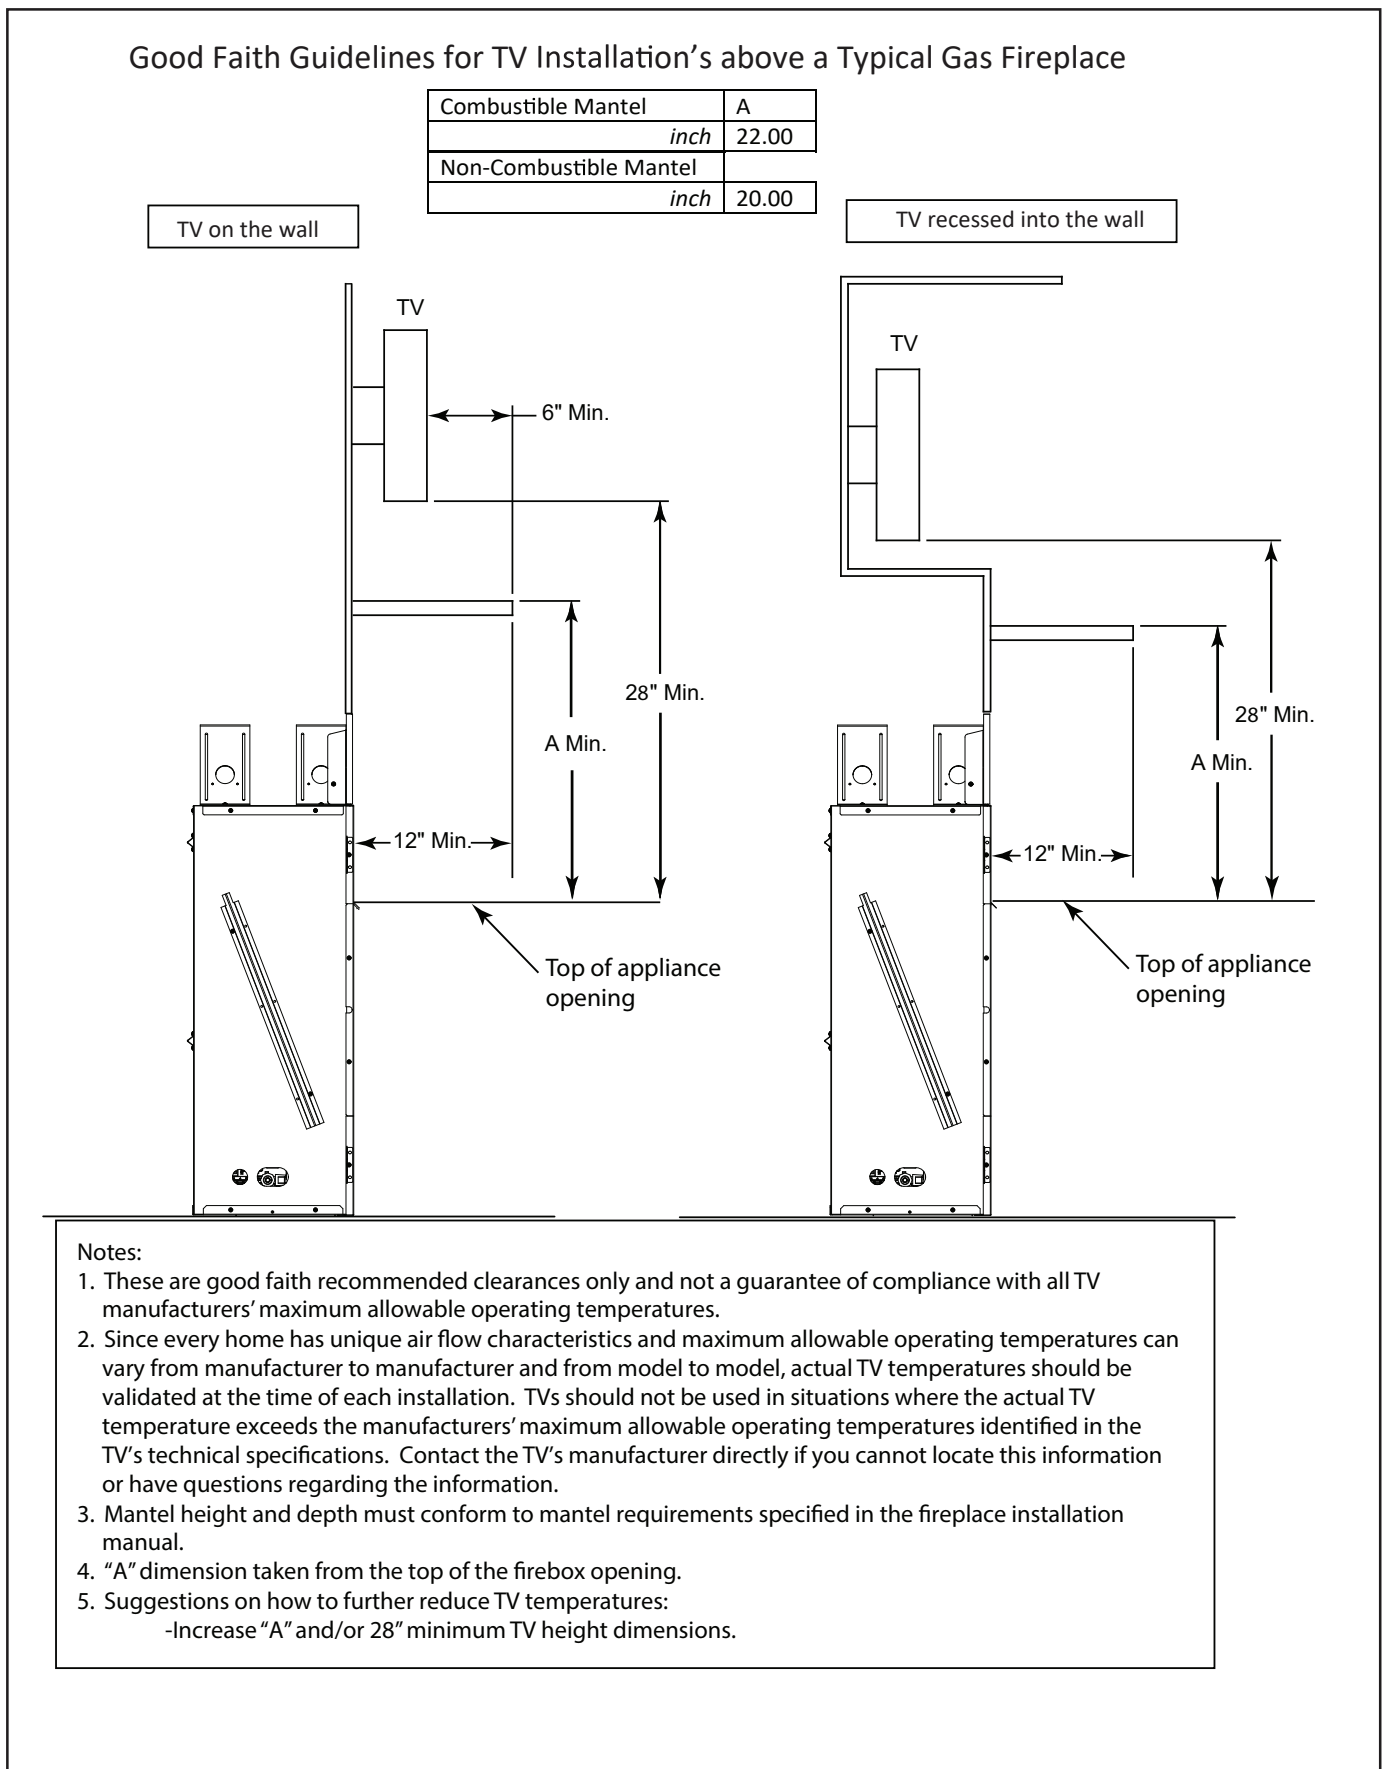

Figure 3.10 - Good Faith TV Guidelines
See Good Faith Guidelines for TV Installations on pages 14 & 15, Figure 3.10 & 3.11.
**Note:** Figure 3.10, 3.11, and 3.12 show the appliance installed on the floor. However, this appliance can be elevated off the floor provided that the appliance is properly supported by framing materials and the ceiling clearances are maintained.